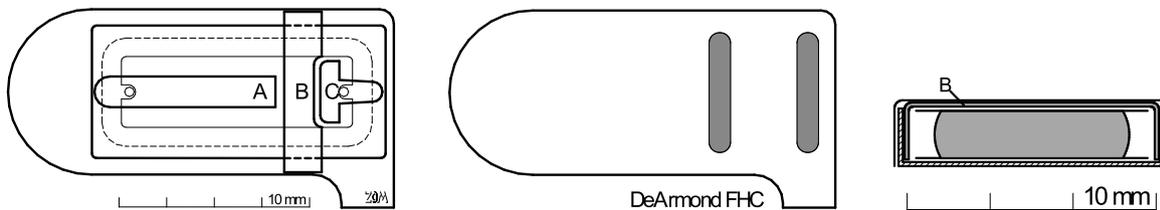

Fig. 5.4.42: DeArmond FHC (US-Patent 2,455,046).
Harry DeArmond (Ohio) was one of the pickup-pioneers: as early as the 1930's he developed magnetic pickups and sold them via his business partner H. Rowe to many guitar manufacturers. Common were at that time flattop and archtop acoustic guitars which could be "electrified" with a pickup. If they sported a round soundhole, the pickup was mounted in there, if they had f-holes, a pickup as flat as possible had to be installed between top and strings (e.g. fitted to the pickguard or the end of the neck). DeArmond's **FHC** was attached to a rod running parallel to the strings, its position could be correspondingly adjusted between neck and bridge. A difficulty encountered with this retrofit of pickups related to the loudness of the individual strings. The "plectrum guitars" used back then did already use steel strings but he lower 4 strings (EADG) were wound with brass or bronze. Here, only the thin steel core is magnetically active and the voltage induced in a magnetic pickup is much lower than for the two solid top strings (chapter 3). DeArmond solved that problem with a very special magnet design for which he even obtained a patent: the bar magnet under the coil is not continuous but has a gap under the B-string. Above the coil two ferromagnetic metal strips focus the field (A, C, **Fig. 5.4.42**); a metal bridge (B) attenuates the magnetic field further.